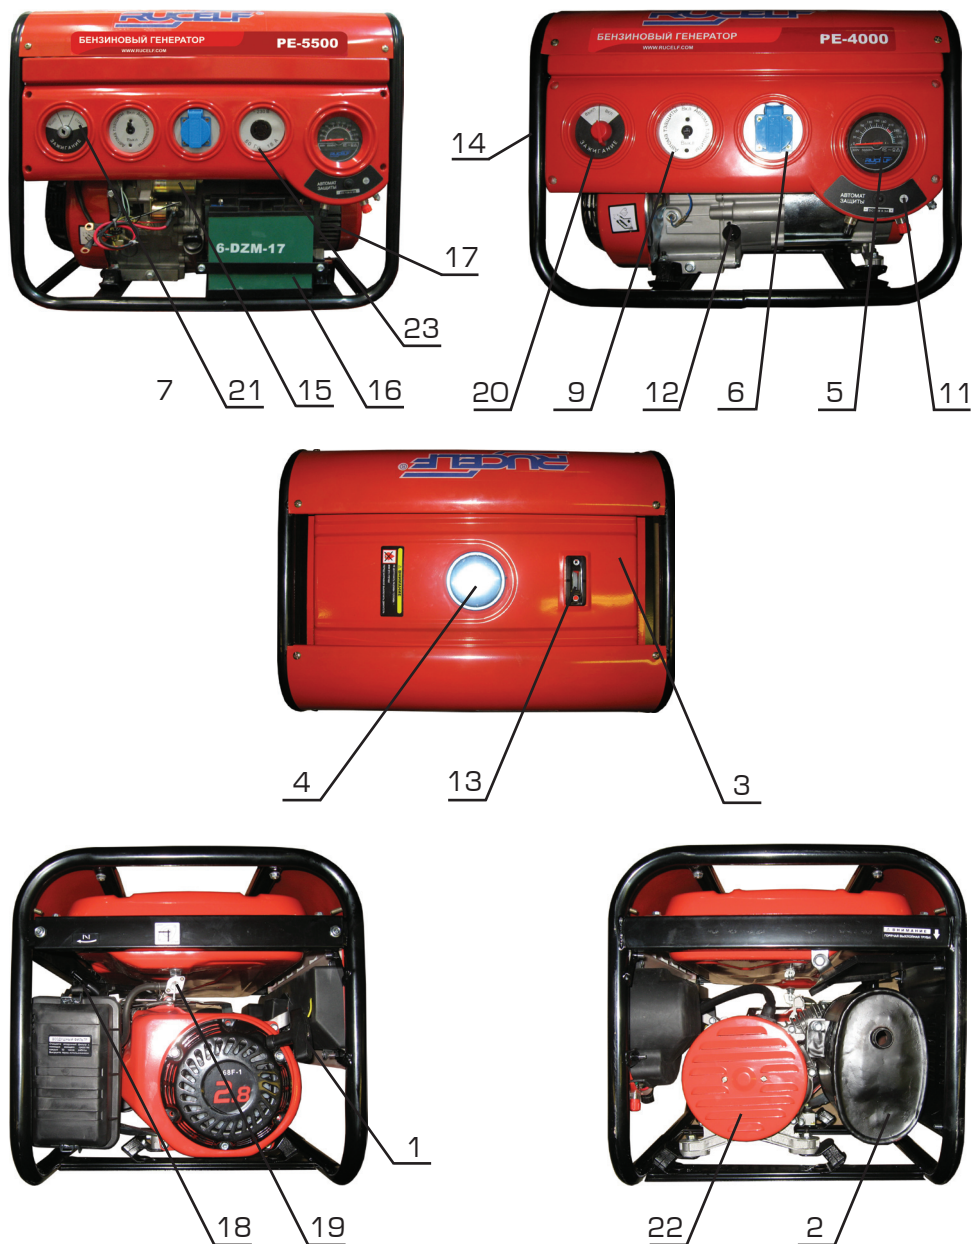

Fig. 1
3.1. Components of the device (Fig. 1).